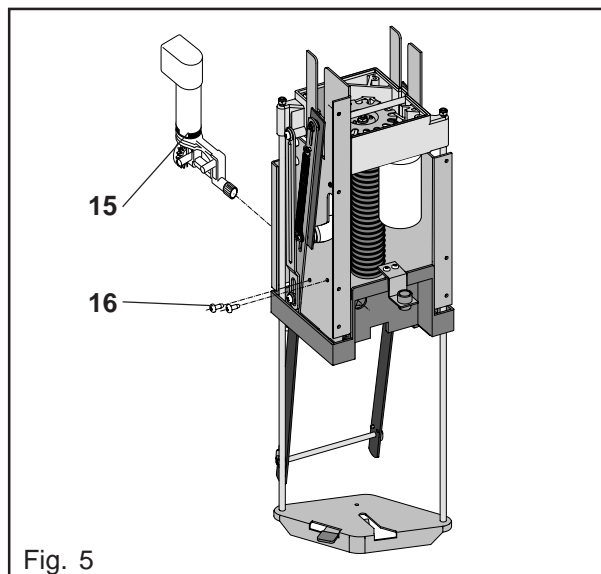

Fig. 5
- Fasten the dosing motor (15) with 2 screws (16) and carry out the electrical connection. (Fig. 5)